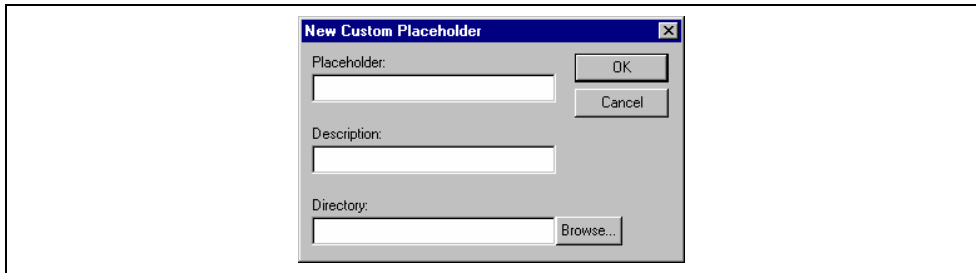

Figure 6.15: New Custom Placeholder Dialog
3. The dialog, add “New Custom Placeholder” dialog is displayed. (figure 6.15)